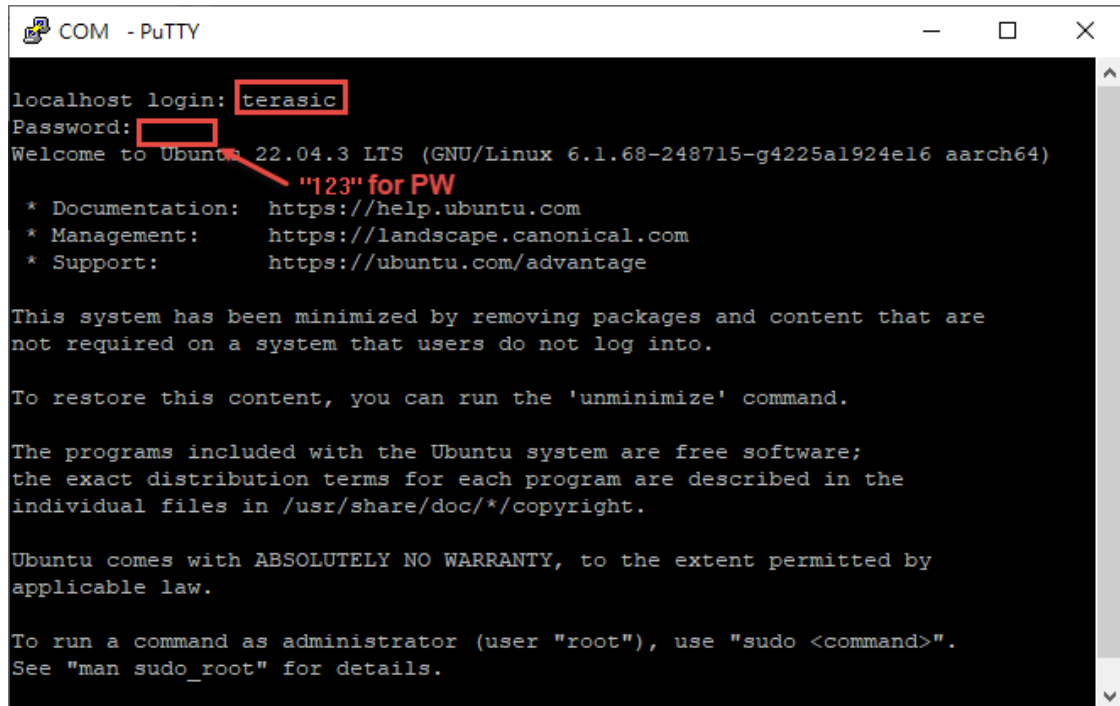

Figure 1-10 Putty Window
4. Please type **terasic** for account name and **123** for the password to login Ubuntu(See **Figure 1-10**).